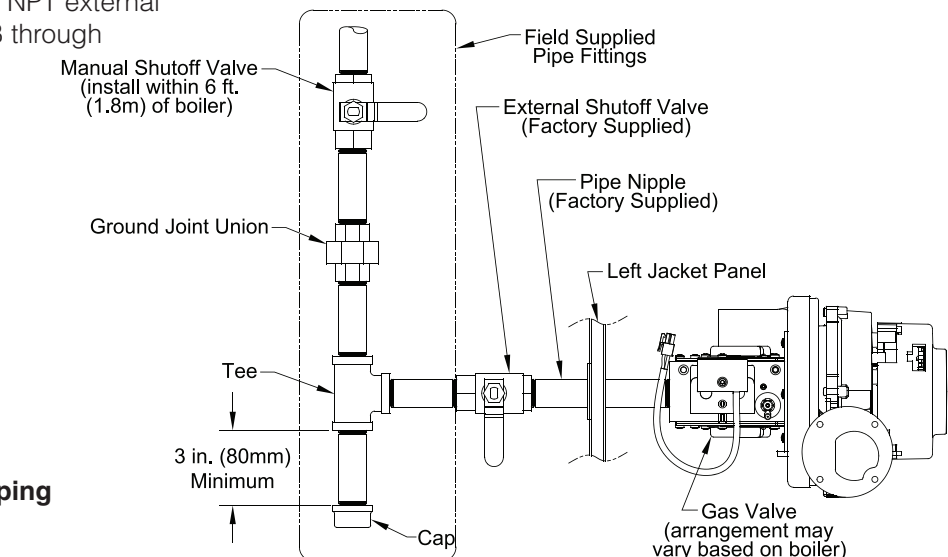

Figure 26: Recommended Gas Piping
- d. Install sediment trap, ground-joint union and manual shut-off valve upstream of mounted factory supplied manual shut-off valve. See Figure 26.
2. **Individual module (boiler) recommended gas piping detail** - see Figure 26.